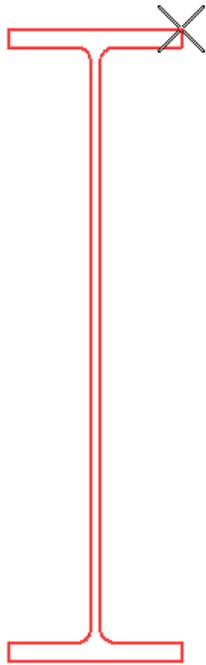

Figure 2-114: Placed Steel Section
The Steel Section should appear at the location of your cursor and will be placed where ever you click in the MicroStation View (Figure 2-114).
- Notice the cursor at the right of the top flange in Figure 2-114. This is the **Origin** point that was assigned .